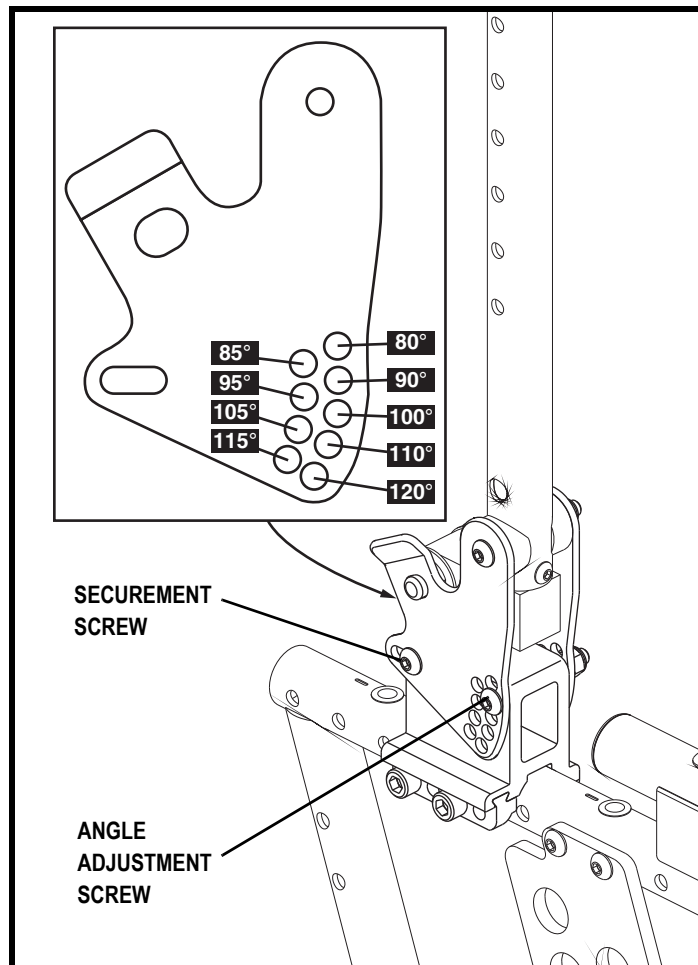

Figure 17. Seatback Angle Adjustment
2. Remove the angle adjustment screw and loosen the securement screw. See figure 17.
4. Reinstall the angle adjustment screw and tighten the screw. See figure 17.